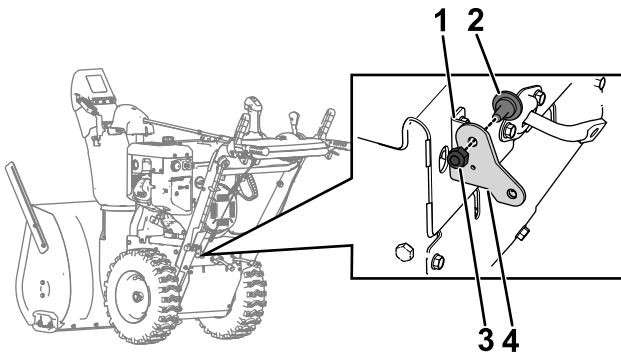

Figure 6
8. Remove the existing traction-cable bracket from the crank bracket by removing the bolt and nut holding it in place (Figure 6).